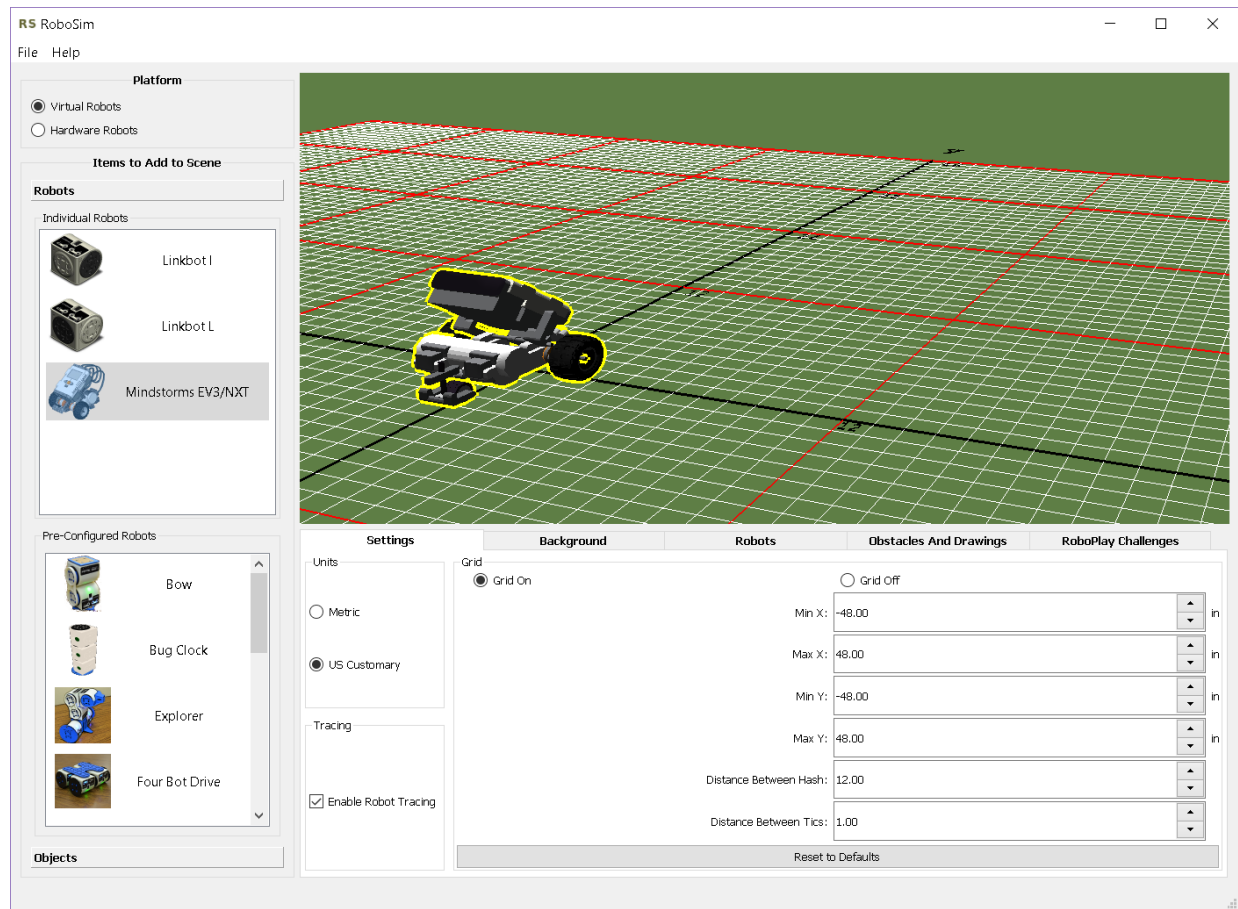

Figure 4.1: The RoboSim GUI.
RoboSim can be conveniently launched by double clicking its icon  on C-STEM Studio as shown in Figure 1.3. The RoboSim graphical user interface (GUI), shown in Figure 4.1, allows the user to change between hardware and virtual robots when a Ch robot program is executed. Different backgrounds, including RoboPlay Challenge boards, are available for RoboSim. Figure 4.1 shows a robot in the default background of outdoors. There is no save button within the GUI, all changes made are automatically saved.
**Tracing** where robots have been can be enabled by selecting the check box “Enable Robot Tracing”, as shown in Figure 4.1. When the tracing is enabled, green lines for robot trajectories will be drawn for each robot. Once a simulation is running, the tracing line can be enabled or disabled by pressing the 't' key.